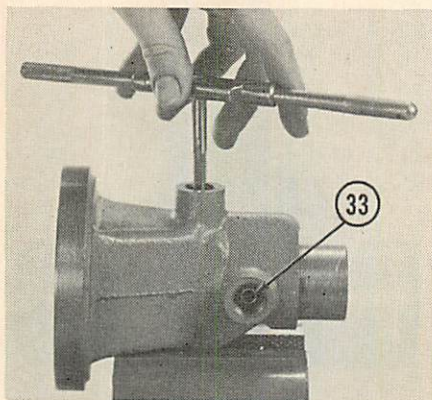

Fig. O44 — To remove connector seats (33), thread inside diameter with tap as shown, then use puller bolts to remove seats.
needle bearing (39), seals (30 and 31), connector seats (33) and blocking valve components except the valve spool (25) may be renewed as necessary. Install new needle bearing (39) by pressing on lettered side of bearing cage only until bearing cage is flush with counterbore. Connectors (33) may be removed by threading inside diameter with tap as shown in Fig. O44, then removing connector with puller bolt. Refer to paragraph 52 for information on blocking valve unit.
move the Teflon seals (16) and "O" rings (17) from groove at each end of piston and remove pinion sealing quad ring (12) from bottom of cylinder. If necessary to remove the check valve assembly (18, 19 and 20) from either end of cylinder, insert punch in hole from inner side of piston head and drive valve ball, spring and spring pin from piston. If the hydraulic line connector seats (13) are damaged, they may be removed in a manner similar to that shown in Fig. O44. Carefully clean and inspect all parts and renew any that are excessively worn, deeply scored or damaged beyond further use.